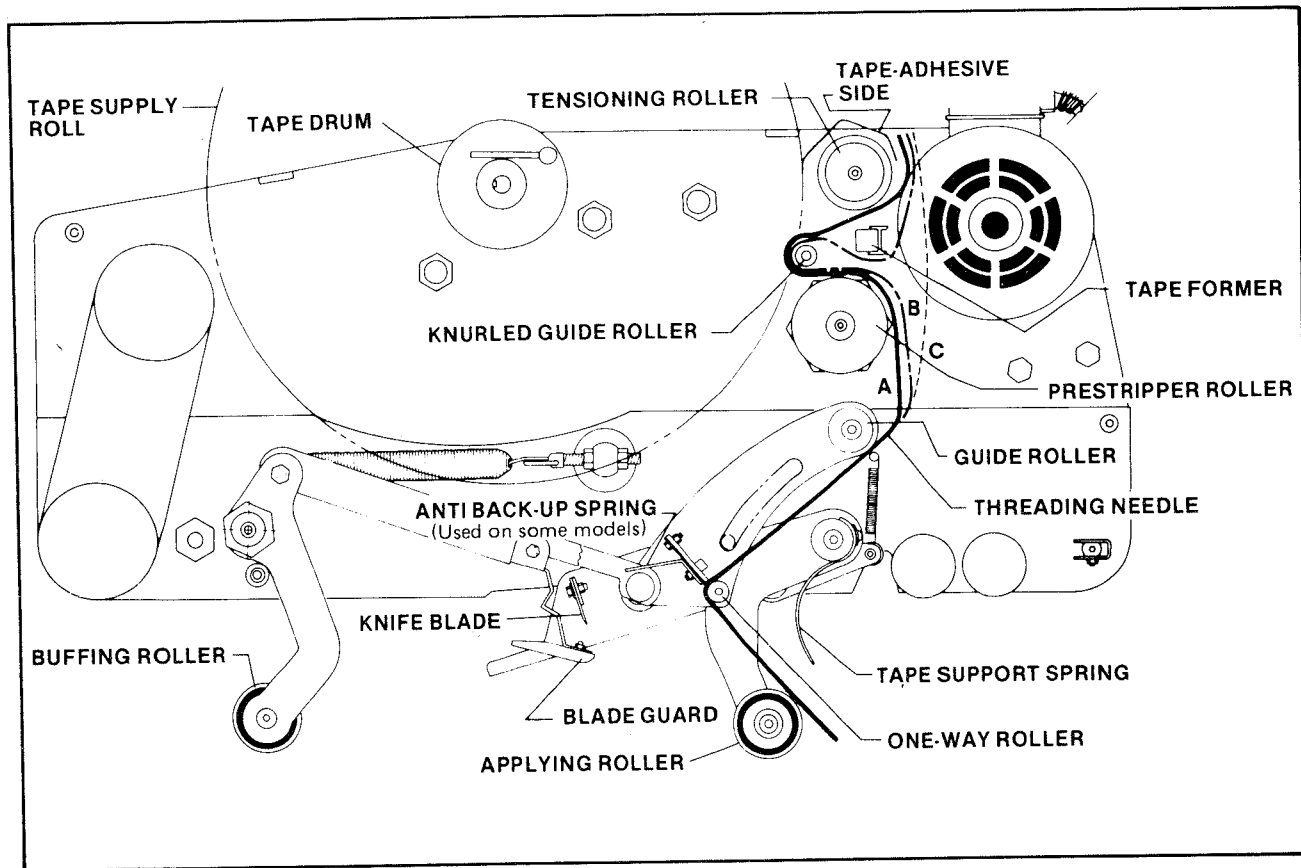
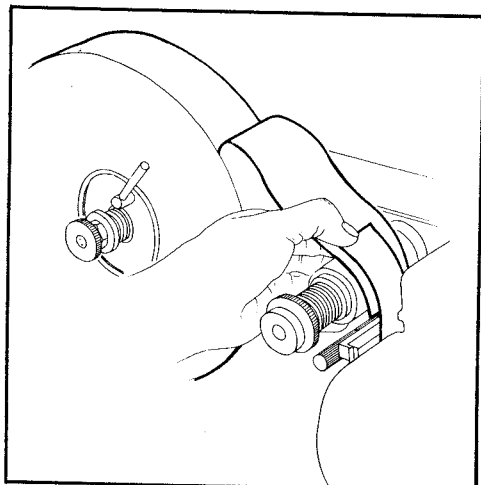

FIGURE 4 - TAPE THREADING DIAGRAM - TOP TAPING HEAD - LEFT SIDE VIEW
FIGURE 4C
- 2) With the temporary threading needle already in position, as shown in figure 4, follow the tape loading procedure from figure 4C to complete the tape threading with this exception; thread tape around tensioning roller, former, knurled guide roller and prestripper roller in one of three paths depending on the type tape and application.
Thread upper end of needle around guide roller and through path A, B, or C as shown in Figure 4.
FIGURE 4C - Turn eccentric roller lever inward to rest against tape drum shaft and place tape roll on drum to dispenser tape from bottom of roll toward guide roller with tape adhesive side up. Seat tape roll fully against back flange of drum and turn roller lever outward to secure tape roll. Adhere tape lead end to upper end of threading needle as shown.